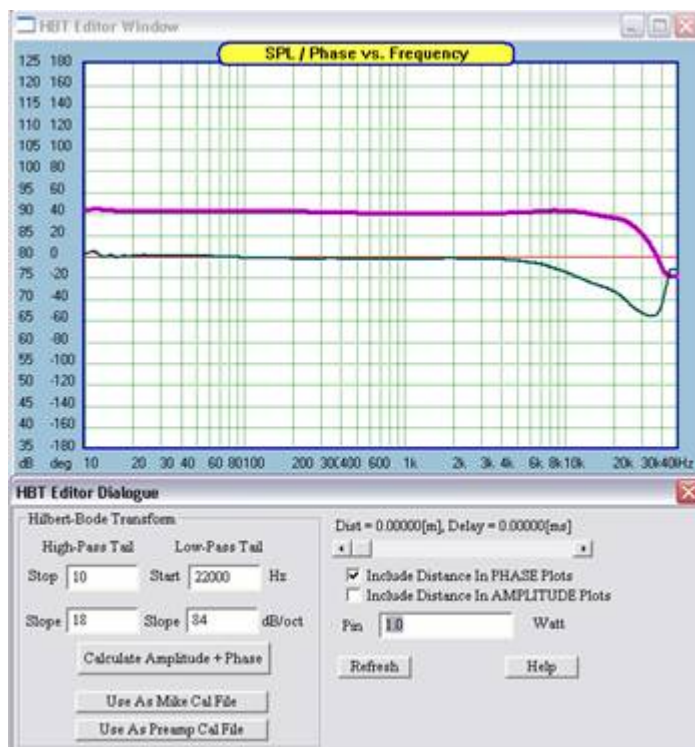

Figure 21. Imported microphone data.
- Click the *Amplitude* button. The data should appear in the HBT Editor screen as shown in Figure 21 where the pink line is the SPL data and the green line is the phase.